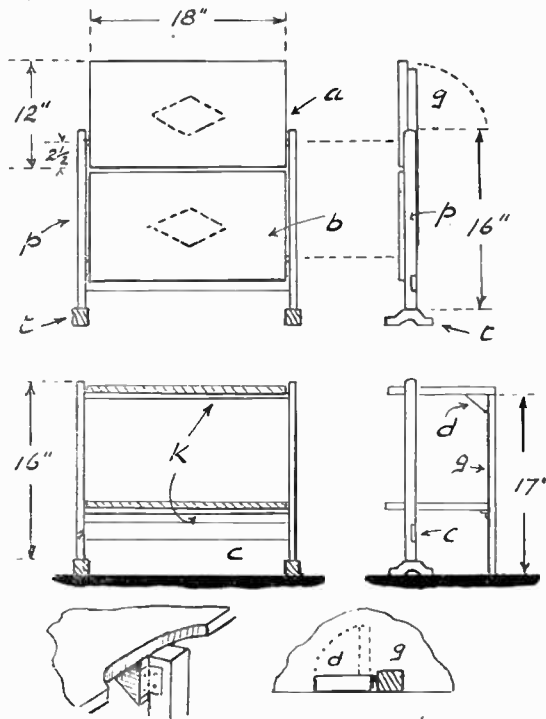

Fig. 1—Front and end view opened and closed
rigidly and would fold up when not wanted. A locking bar to hold the levels when closed must also be put in. The first lock is as shown in the bottom diagram, Fig. 1. It is simply a triangular block of wood attached with a hinge to the top side of (g) and so adjusted that it turns stiffly under the top level.
We now have the two levels and side uprights together, but still have to put on the third and supporting leg (g). This is 17in. long and of wood 1in. by 1in. section. It is held in position at the outer edges of the levels by small brass hinges on the underside. If correctly fitted the levels can now be pulled down as in the bottom right-hand sketch (Fig. 1). To make the length fit over the dowelling, however, it is necessary to take out the channel (A) Fig. 2. This is only $\frac{1}{2}$ in. deep and will not weaken the wood. The lower end of (g) misses the second dowel in coming up.